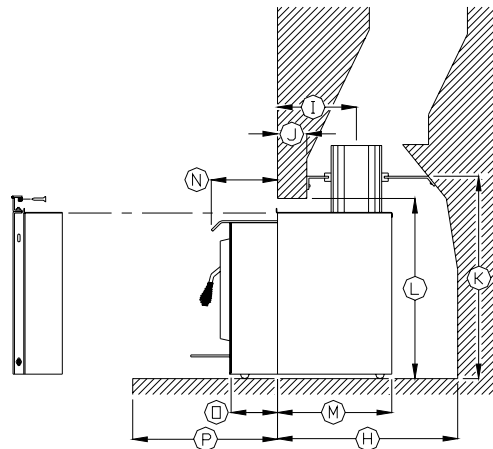

Figure 3
- A. Referring to the table and Figure 3, pick a location for the positive connector plate. It will be easiest to install the plate so that the hole for the flue is somewhere in between the extreme positions, and to use the adjustability of the faceplate to take up any inaccuracies in the fit. Alternatively, the plate itself can be moved up and back by using a 6" (152mm) extension directly on the flue.
4. **POSITIONING THE UNIT:** The more extended the insert, the greater the heat transfer to the room. When installed as an extended insert, the front edge of the air jacket will be installed flush with the fireplace facing. Otherwise the unit can be moved back as much as 3.5" (89mm) or any position in between. The position chosen will depend on your own preference for most installations (where the lintel is less than 6" (152mm) and the depth is greater than 12.5" (318mm)). See the table and Figure 3.